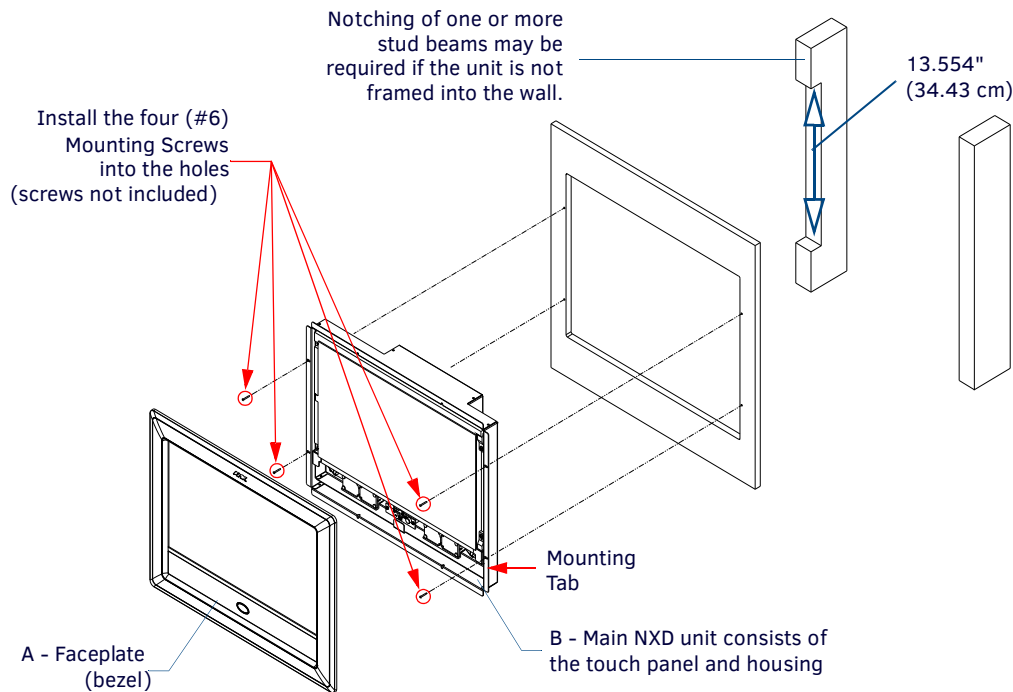

FIG. 61 Wall Mount panel (NXD) installation using screws
- Remove the magnetic faceplate/bezel (**A** in FIG. 61) from the main NXD unit (**B** in FIG. 61) by gripping the faceplate and pulling with gentle outward force.
9. Cutout the notched beam (FIG. 61 on page 68) using a height of 13.554" (34.43 cm) and a depth *using the following guideline. This notched beam is located on the side of the NXD unit furthest away from the connectors.*
- Calculate the distance from the edge of the mounting ridge (FIG. 61) to the rear point (on the box) where the beam touches the back box. Our example uses **1 3/8" (inches)** (on the deepest point of the rear back box).
17. Place the magnetic faceplate (A in FIG. 61) back onto the main NXD unit. Make sure to align the Microphone, Light, and PIR Motion sensor locations to their respective openings on the front bezel/faceplate.